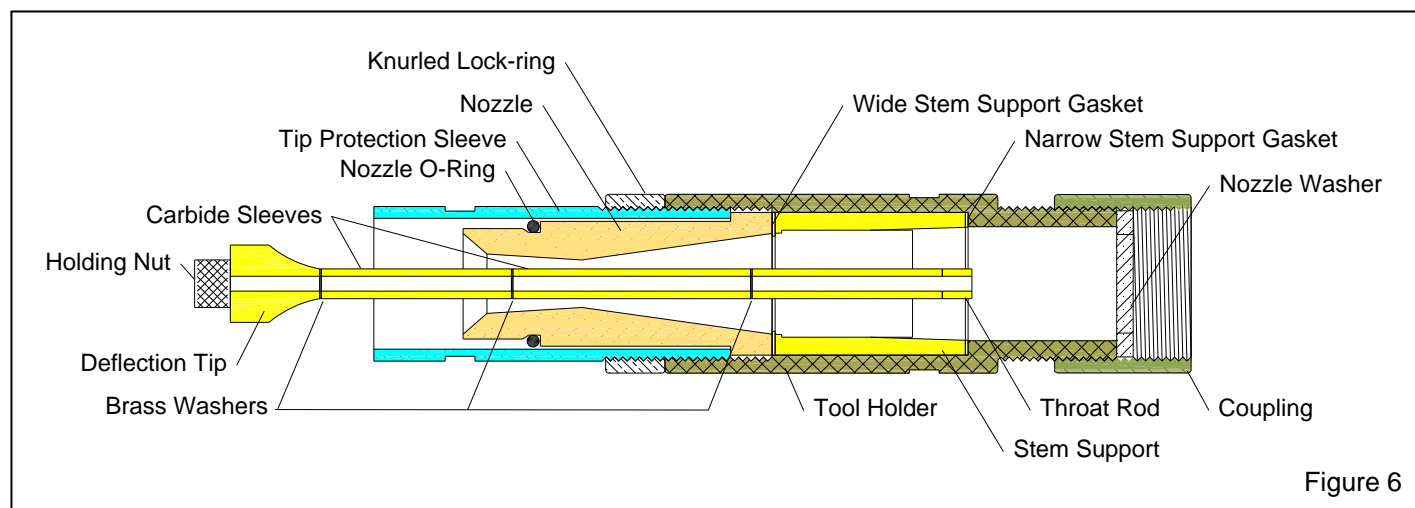

Figure 6
5.1 Preventive Maintenance, Refer to Figure 6